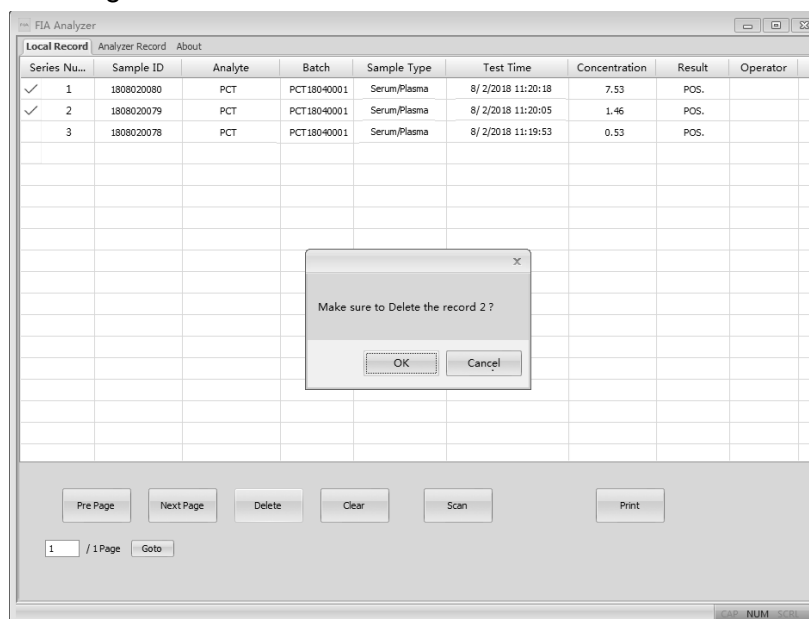

Fig 38
- “**Delete**”: Select the items to be deleted and click “**Delete**” Tab, you can get a prompt as in Fig 38 to confirm. Click “**OK**” to delete.